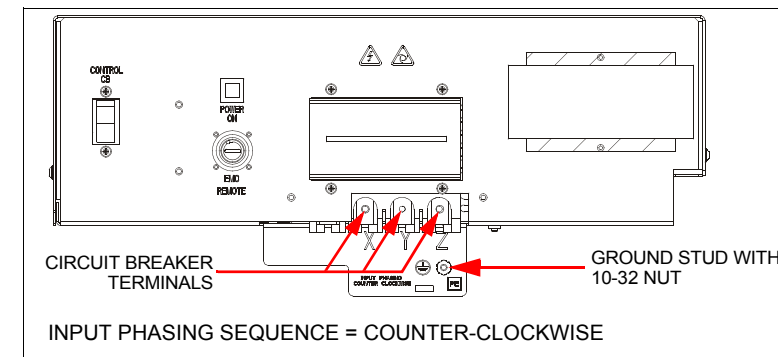

Figure 4: System Circuit Breaker Power Cable Connections
- 7) Connect the power cable to the **system circuit breaker**. See *Power Cable Connections, Figure 1G*, and *Figure 4*.